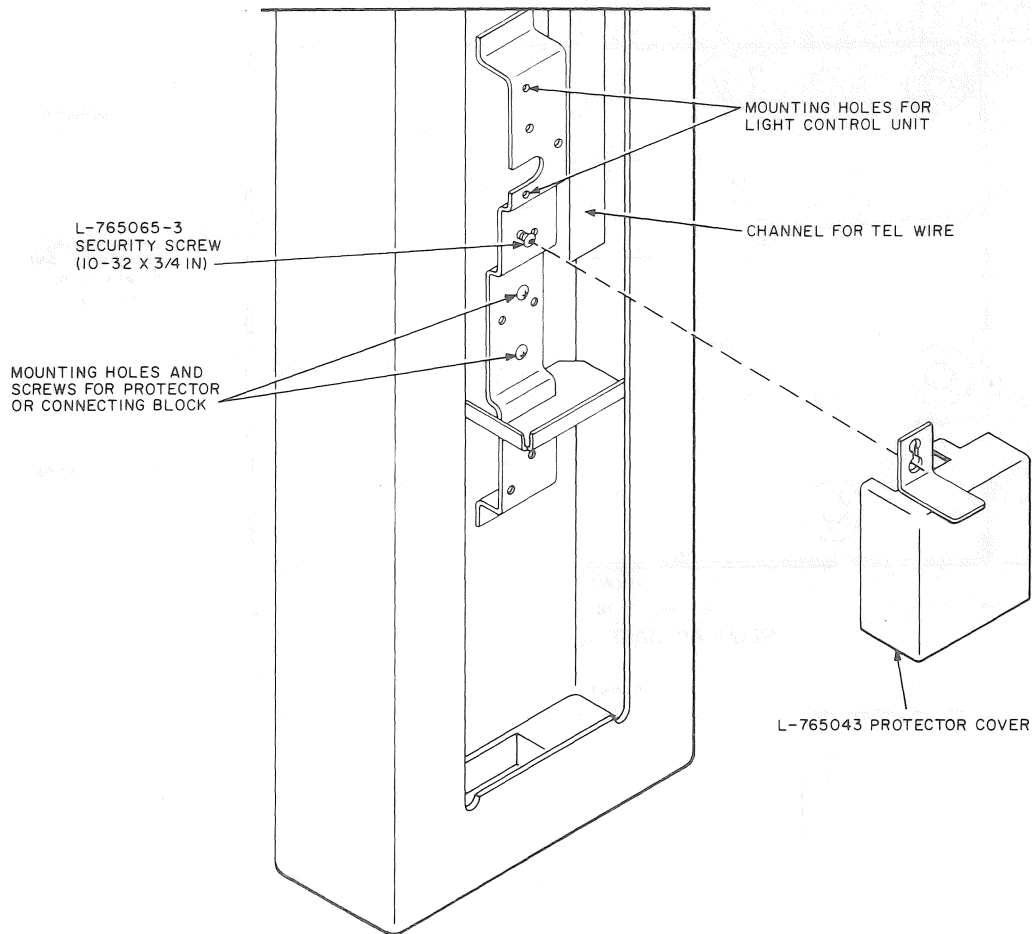

Fig. 15—Mounting Location of Station Protector and Connecting Block
2.35 The telephone wiring for a station equipped with a List 31 or 32 housing terminates at a 123A1A or 128A1A-2 protector outdoors or on a 42A or 1044A connecting block indoors. Provisions for mounting the protectors and connecting blocks are on the bracket located inside protector access cover, lower right rear of post (Fig. 15). The wiring entrance is located on the top-right side or lower inside of the post.
List 10 kit may be installed in outdoor stations (Fig. 8 and 9) to control the lamps (on at darkness and off at daylight). Refer to 2.19 and 2.26. Mounting space for the optional light control is provided on bracket above where station protector or connecting block mounts (Fig. 15).